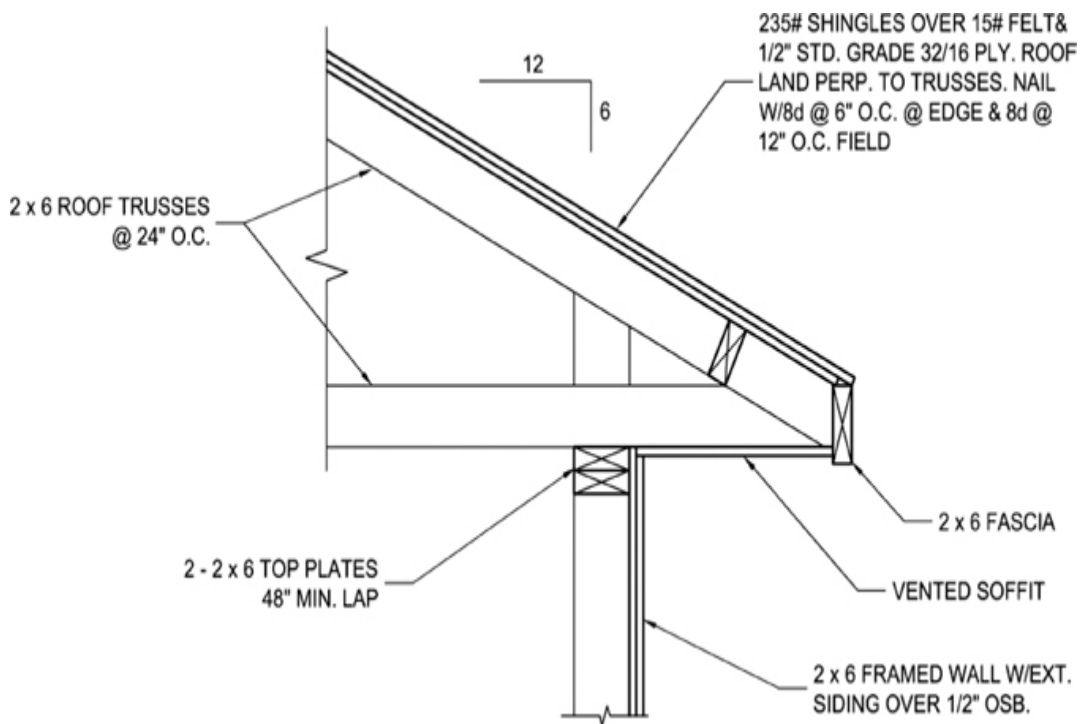

Figure 8-45
5. Draw all line work that appears beyond the section cut as shown in Figure 8-45 on layer **A-Detl-Mbnd** (roof truss, break lines, vertical wall lines).
6. Draw all line work that is cut by the section as shown in Figure 8-45 on layer **A-Detl-Mcut** (lumber in section, plywood, O.S.B., siding).
7. Draw the X's that represent lumber in section as shown in Figure 8-45 on layer **A-Detl-P1**.